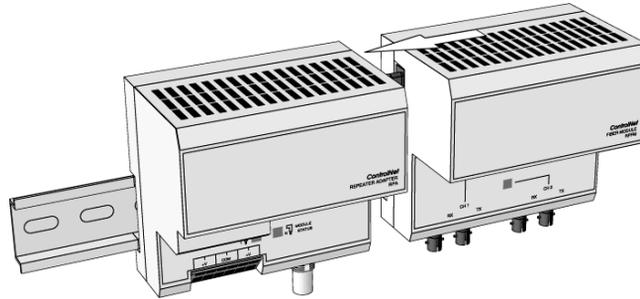

Figure 85. Installing ControlNet fiber units, step 3.
3. Up to four repeater units can be mounted on the DIN rail and plugged together with the repeater adapter. Remove the protective backplane caps from the connectors that will be used. Attach a repeater unit to the rail and slide it to the left to mate with the repeater adapter or another repeater unit, see Figure 85.